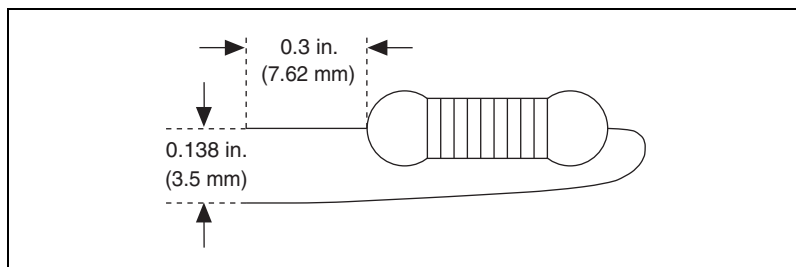

Figure 4-12. Preparing Lead Wires of PCMCIA-CAN/LS Cable Replacement Resistors
- Bend and cut the lead wires of the two resistors you want to install, as shown in Figure 4-12.